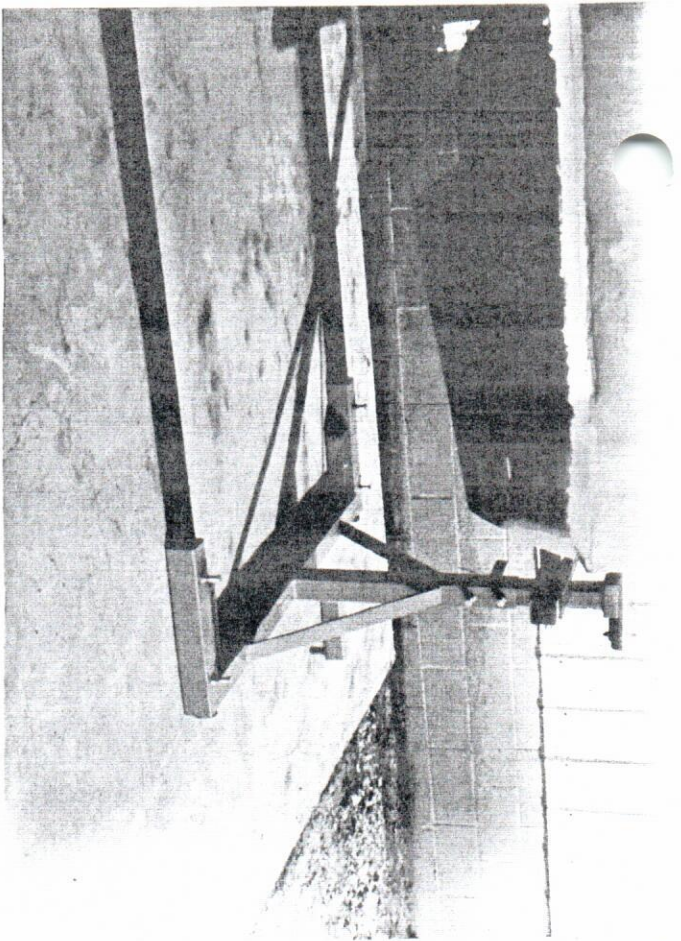

Figure 5
11. Install (2) 2" I.D. round pipe (not included) long enough to connect both bases. DO NOT USE SQUARE TUBING. (Figure 5)